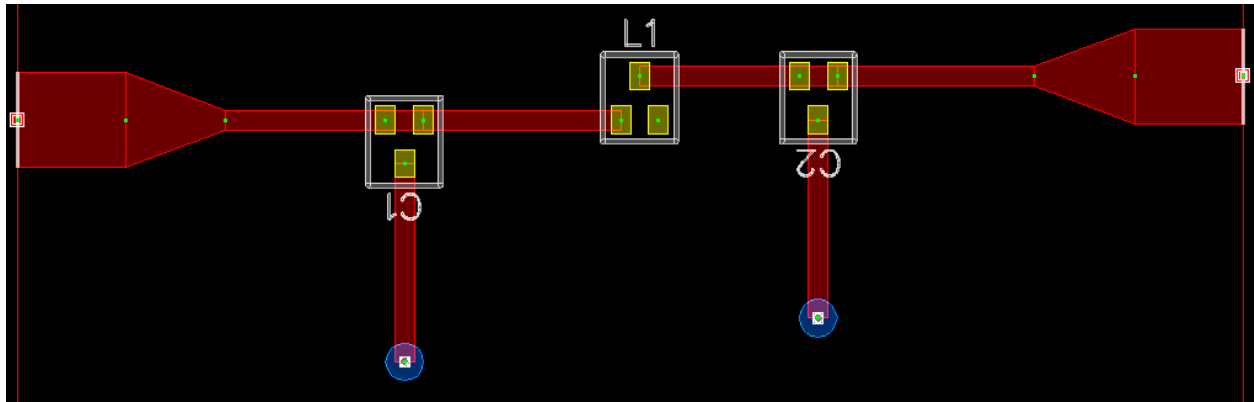

Fig. 3: Example LPF Layout
8) Once you have an acceptable design, prepare it for fabrication. You will need to add a Layout to your new schematic and align the parts. See Fig. 3 for an example (again, it does not have to be exactly the same). Use this to create a Gerber file. Capture a screenshot of the final layout and the Gerber Export Viewer to prove your design is ready for fabrication.